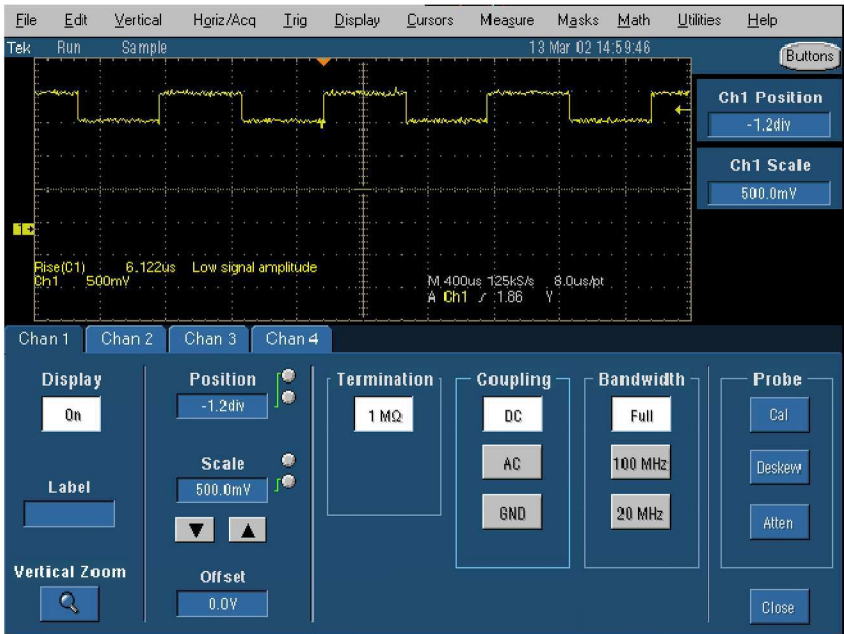

Figure 12: Typical waveform at DC Coupling
8. Set Coupling to DC, and set trigger level to 50%. The resulting waveform should appear as shown. (See Figure 12.)